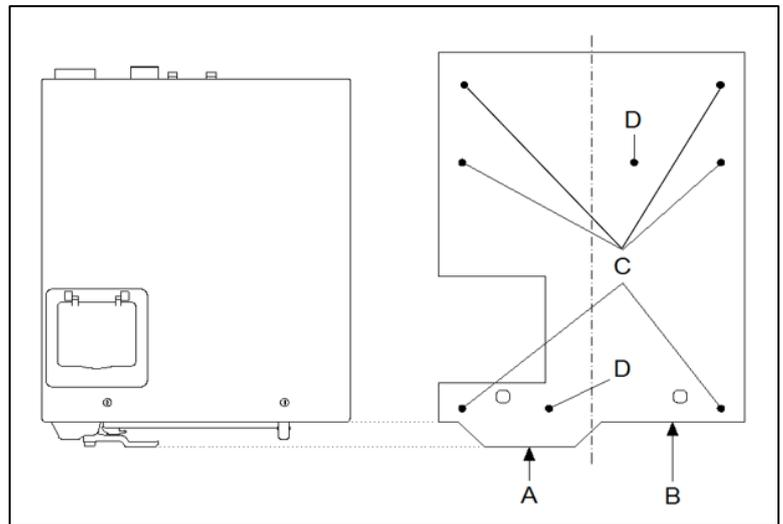

Fig. 2.4
Should the extra cardboard packing used as a spacer between the washing machine and the packaging have the holes (C) or (C and D) indicated in Fig. 2.4, this can be used as a template for the layout of the washing machine's anchoring points on the floor.
- Place the extra sheet of cardboard on the floor as shown in Fig. 2.4. It is important to place the cut-out for the dispenser as it is located on the washing machine.
- The washing machine can be aligned using the plans (A) or (B) in Fig. 2.4 as appropriate. Plan (A) distributes the anchorage points with reference to the hinges, or in the case of the **RMS/RMG628** and **REM/RMG070** models, to the handle. Whereas Plan (B) does so with reference to the front of the washing machine.
- Mark the anchoring points on the floor using holes (C) as indicated in Fig. 2.4. In the case of the **RMS/RMG628** and **REM/RMG070** models, mark the points using the holes (C) and (D) as indicated in Fig. 2.4.